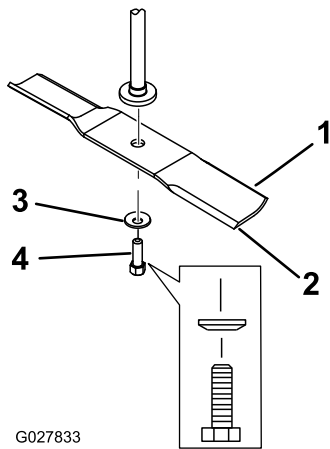

Figure 51
2. Remove the blade bolt, the curved washer, and the blade from the spindle shaft (Figure 51).
1. Install the blade onto the spindle shaft (Figure 51).
2. Install the the curved washer (cupped side toward the blade) and the blade bolt (Figure 51).